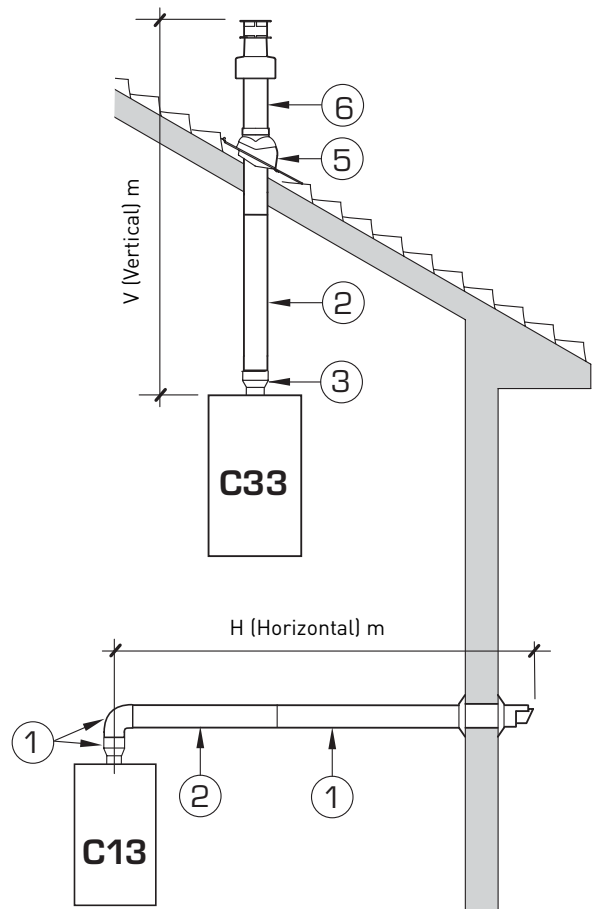

Fig. 6
2.6 INSTALLATION OF COAXIAL DUCT \varnothing 60/100 - \varnothing 80/125 (fig. 6)
The diagrams of fig. 6 illustrate some examples of different types of flue options allowed and the maximum lengths that can be reached. It is essential that a flue